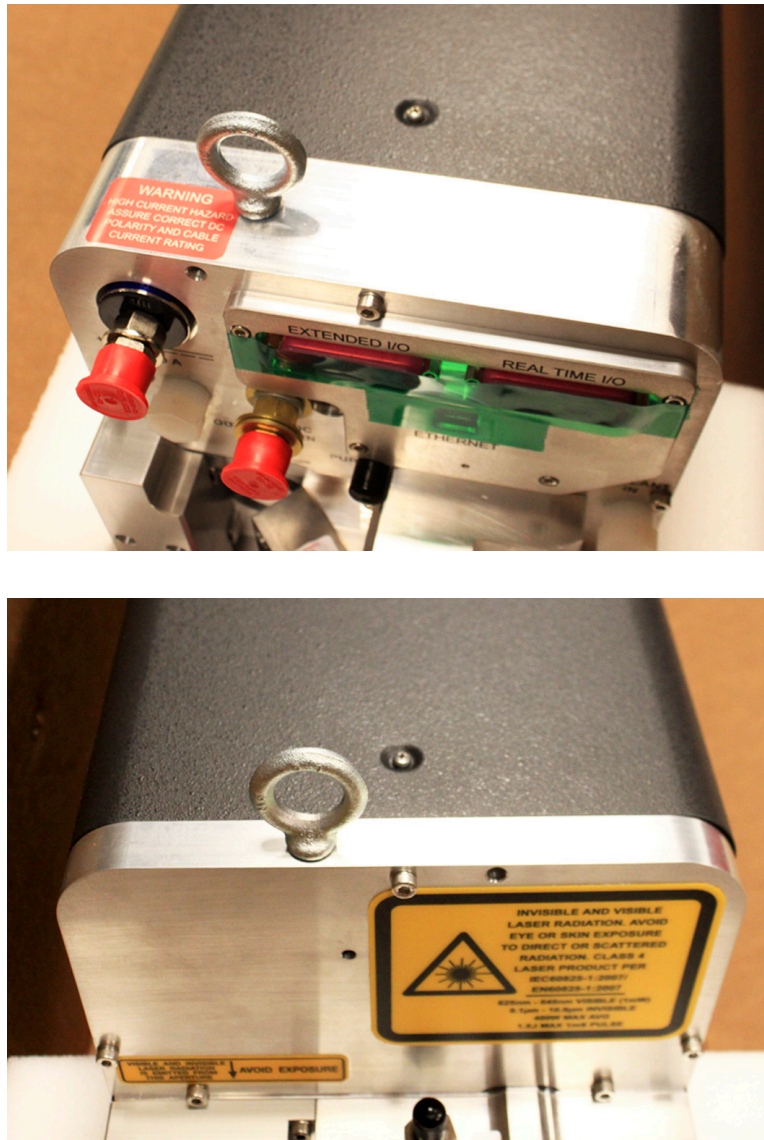

Figure 4-11. Eyebolts Installed in Laser System
3. Insert the supplied eyebolts into the holes as shown in Figure 4-11.